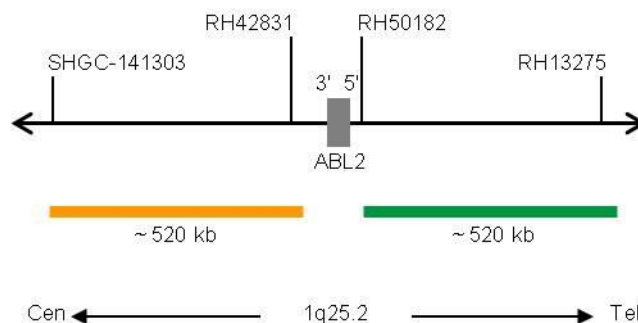

Fig. 1: SPEC ABL2 Probe map (not to scale)
- ZyGreen (excitation 503 nm/emission 528 nm) labeled polynucleotides (~10.0 ng/μl), which target sequences mapping in 1q25.2\* (chr1:179,141,608-179,659,091) distal to the ABL2 breakpoint region (see Fig. 1).
- ZyOrange (excitation 547 nm/emission 572 nm) labeled polynucleotides (~4.5 ng/μl), which target sequences mapping in 1q25.2\* (chr1:178,496,704-179,015,312) proximal to the ABL2 breakpoint region (see Fig. 1).